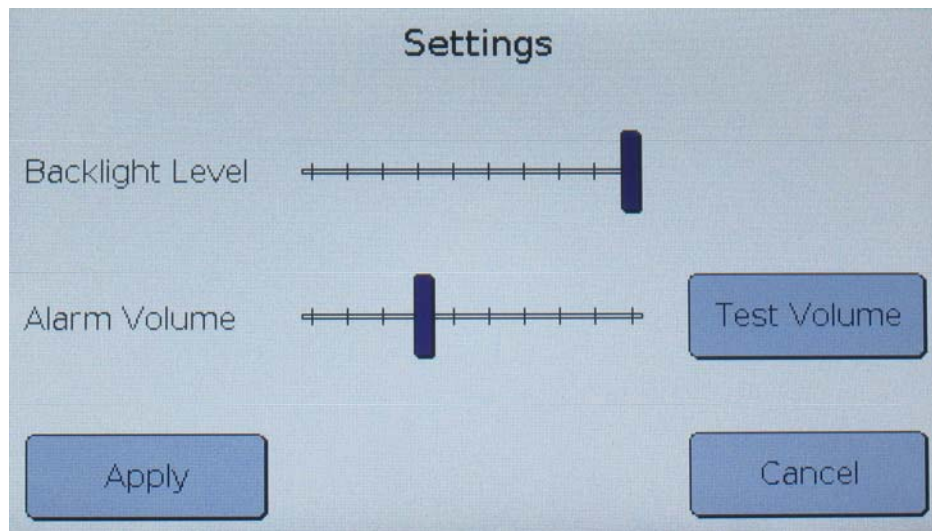

Figure 6
- c. Volume and Backlight - The receiver's volume and brightness can be adjusted by entering the Settings screen. From the home screen press the Settings button and a volume and backlight screen will appear. See figure 6. To adjust the volume or display brightness (backlight), press and slide the indicator to the desired level. (Right to increase, left to decrease.) The "Test Volume" button allows the user to activate the buzzer to test the volume settings. Once the desired adjustment has been made, press the "Apply" button and the display will return to the home screen. During low light or no-light situations, press the "Backlight" button on the home screen to toggle the backlight on and off.